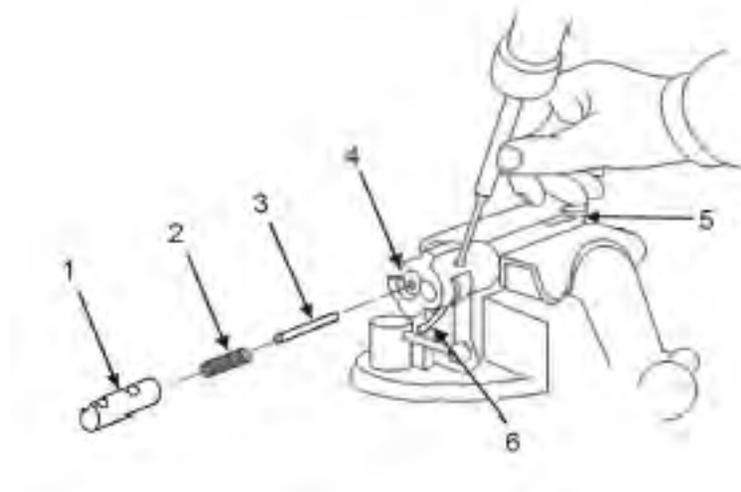

Figure 1. Bolt Assembly in Vise with Cam Lobe.
1. Position bolt assembly (Figure 1, Item 4) in a protective jawed vise with cam lobe (Figure 1, Item 5) in an up position.
2. Drive out extractor pin (Figure 1, Item 6) and discard.
3. Remove extractor (Figure 1, Item 1), pin guide (Figure 1, Item 3), and extractor spring (Figure 1, Item 2) and discard.